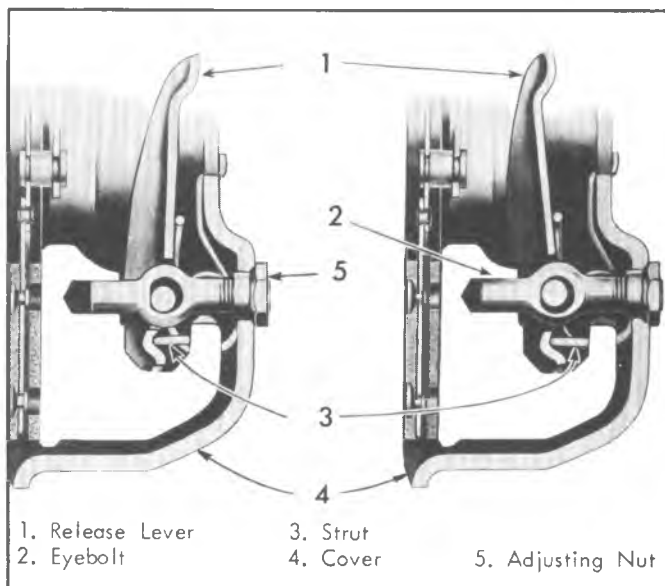

Fig. 10—Release Lever
When the clutch pedal is depressed the release bearing is moved toward the flywheel and contacts the inner ends of the release levers, (1) (fig. 10). Each release lever is pivoted on a floating pin which remains stationary in the lever and rolls across a short flat portion of the enlarged hole in the eyebolt (2). The outer end of each release lever engages the pressure plate lug by means of a strut (3), which provides knife-edge contact between the outer end of the lever and the lug. The outer ends of the eyebolts extend through holes in the stamped cover (4), and are fitted with adjusting nuts (5) to correctly position the levers.